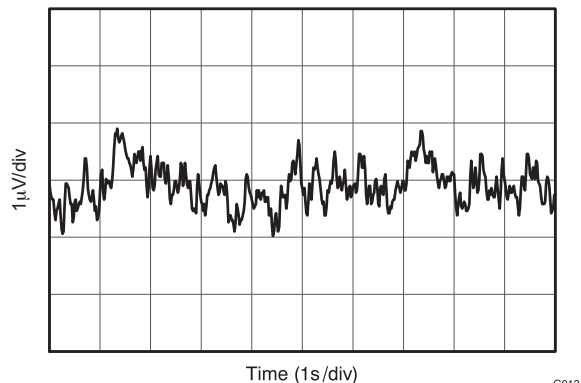

Figure 13. 0.1-Hz to 10-Hz Noise
0.1-Hz to 10-Hz Noise	Figure 13